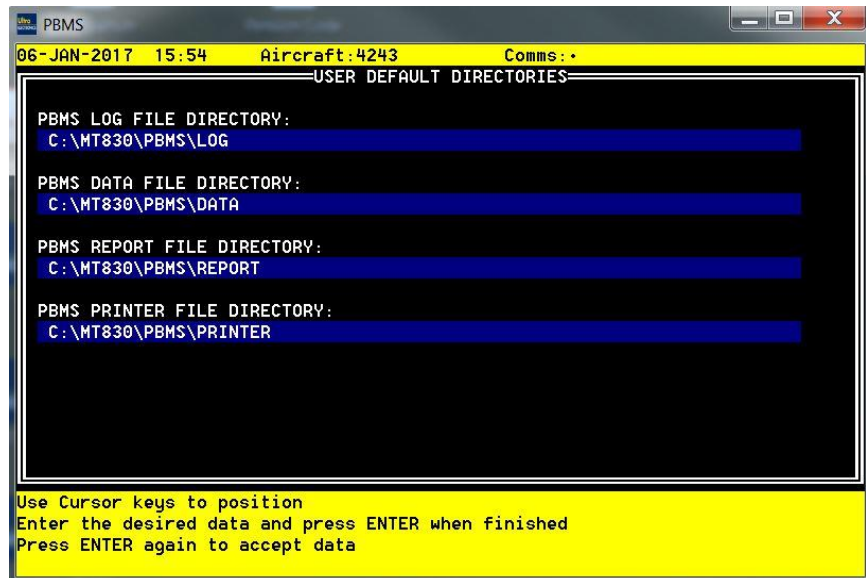

Figure 2-14 User Default Directories Screen
- (3) User Default Directories
- (a) Select 'User Default Directories' from the 'Set-up Menu' and press <ENTER>. The PBMS Terminal display will show the list of 'User Default Directories' (Refer to Figure 2-14).